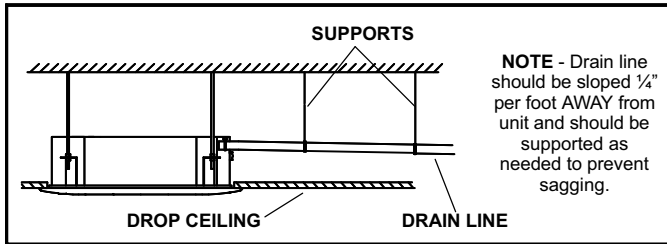

Figure 8. Sloped Condensate Drain — Single Unit
- 3 - See figure 8 for applications including a single unit and a single drain. In this case, ensure that the drain line is properly sloped (no less than 1/4 inch per foot) and condensate lines are routed to ensure moisture is drained away from the indoor unit.